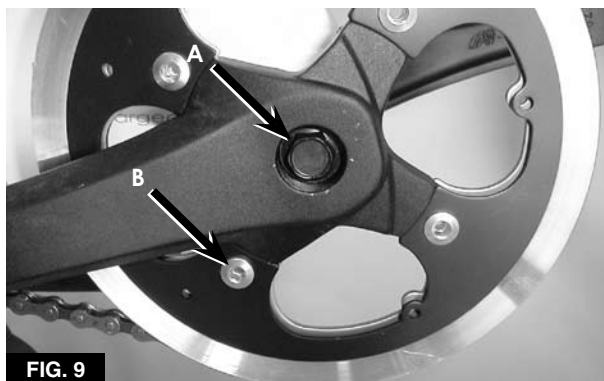

FIG. 9
2. Pull the plug from the crank arm, and examine the crank arm bolt (A, **Figure 9**).
4. Apply grease to the crank arm bolt. Turn in the bolt, and torque crank arm bolt (A, **Figure 9**) to the specification in Table 5.
3. Use a screwdriver to hold the chainring nuts (C, **Figure 14**), remove the chainring bolts (B, **Figure 9**), and remove the chainring from the crank arm.
4. Fit a nut (C, **Figure 14**) into the inboard side of the chainring, and turn in a chainring bolt (B, **Figure 9**). Repeat until all bolts are turned in.